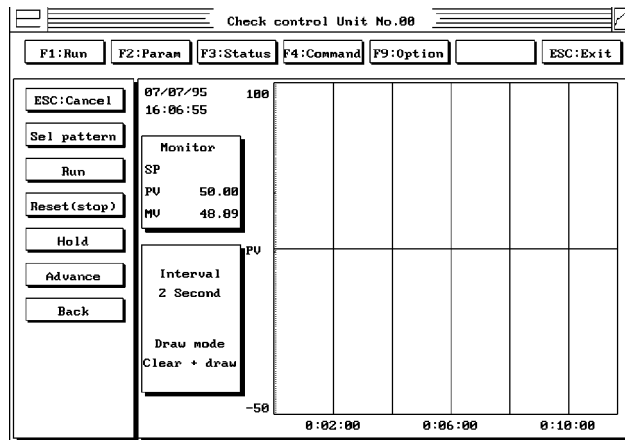

Figure 30
3. Select **Run** from the new vertical menu on the left side of the screen (Figure 30).